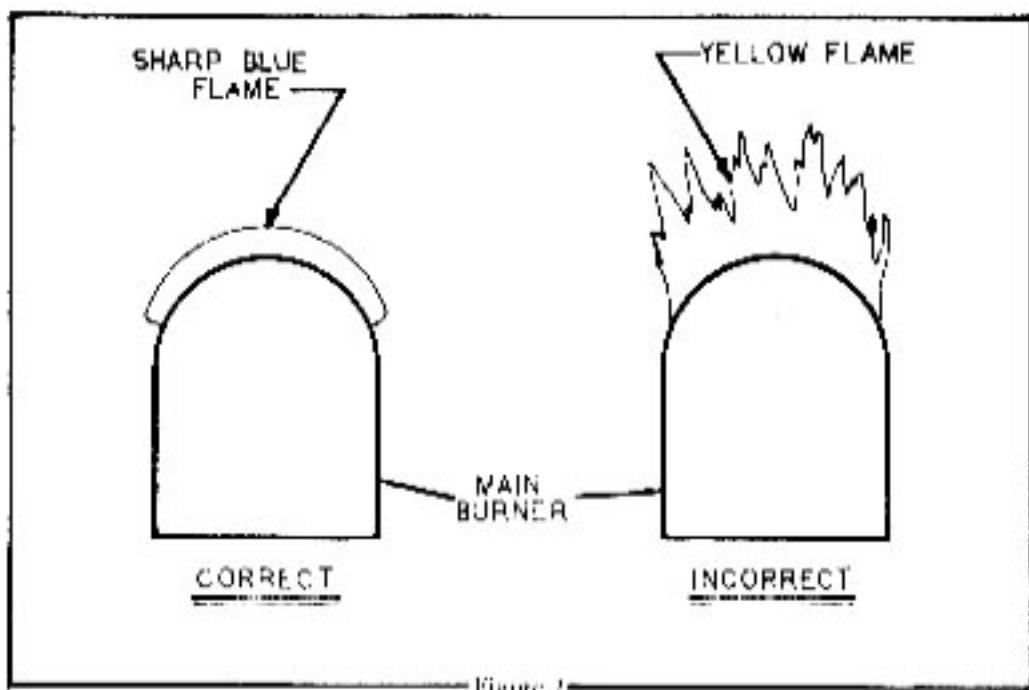

Figure 2
- 8-Periodically observe the main burner flame to assure it is burning with a hard blue flame with well defined burner ports (see Figure 2). If flame appears yellow or burner has a lazy flame, shut furnace down and contact a qualified service person.